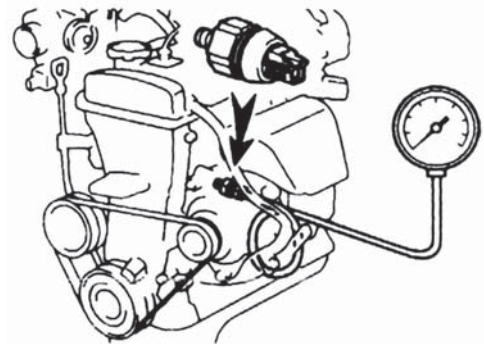

Figure 81
4. Install oil pressure gage sensor. See (Figure 81) Start engine to normal operation temperature.